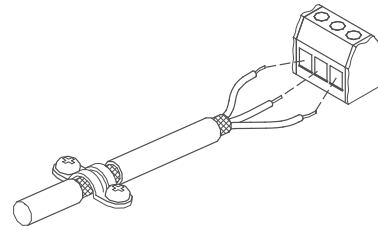

Fig. 13 Stripped cable with screen and wire connection
- Connect the screens of the cables to frame at both ends with good frame connection. The screens must be as close as possible to the terminals. See fig. 13.